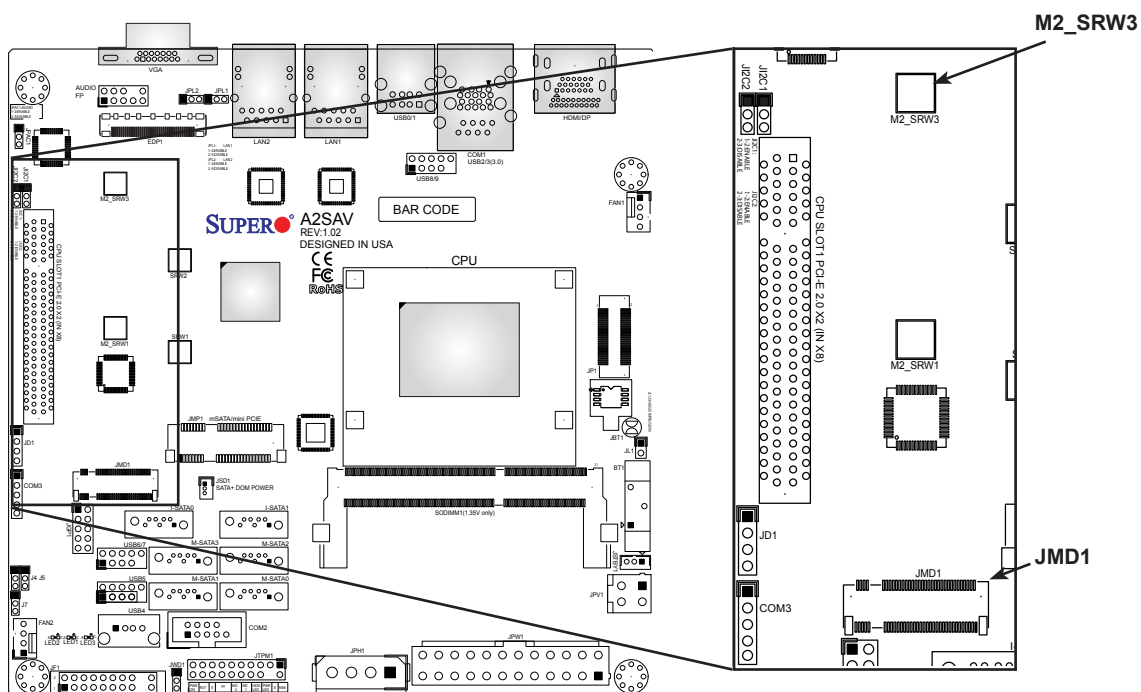

Figure 2-5. Installing an M.2 SSD Card
3. Locate the M.2 slot (JMD1) and the screw mount (M2_SRW3) that secures it, as shown in Figure 2-5 below.